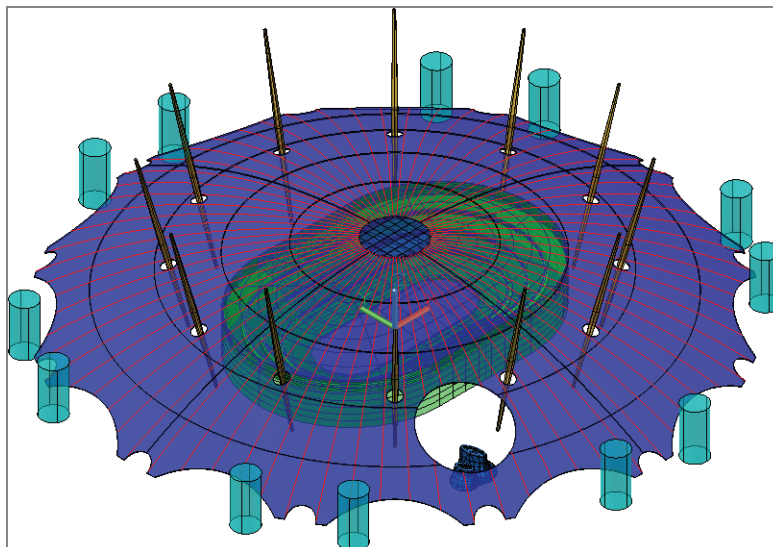

FIGURE 16.7 The X-ray visual style lets you see through solid objects.
9. Choose X-ray from the in-canvas menu that appears. Figure 16.7 shows the result: a transparent, shaded view with edges.